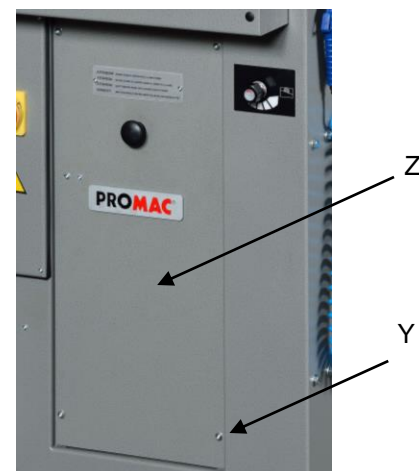

Fig 9
2. Disassembly screw Y (Fig.9) that blocks carter Z (Fig.9) access to the blade.
4. The machine is equipped with a micro end switch in order to avoid that the blade's engine may get to work before carter Z (Fig.9) is perfectly closed.